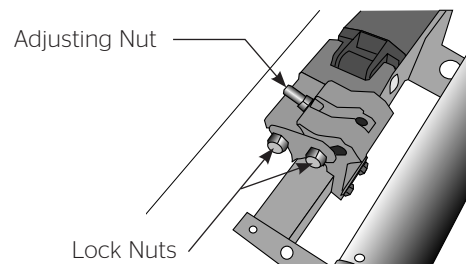

Figure 5
2. Loosen the two lock nuts on the end of one arm (Figure 5).